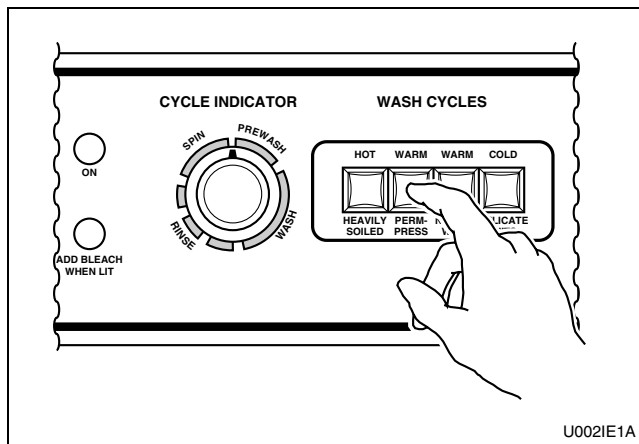

Figure 7
5. Select wash cycle. Refer to *Figure 7*.